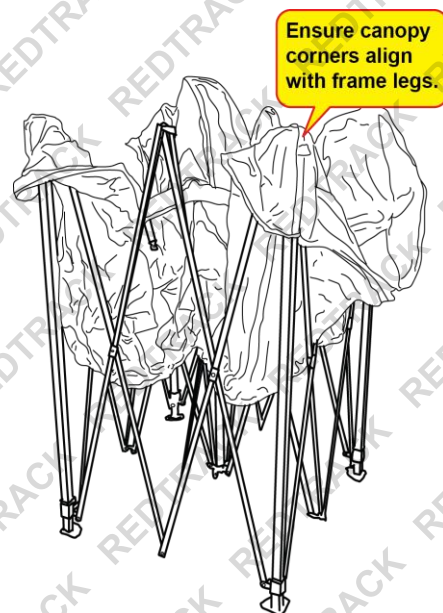

Fig 1 – Unassembled Gazebo with Canopy on Frame
2. Carefully place the gazebo canopy over the frame so that the centre and corners are lined up with the frame (*Fig 1*). For larger model gazebos, spread the gazebo frame (see step 4) close to full size before placing the canopy over it.